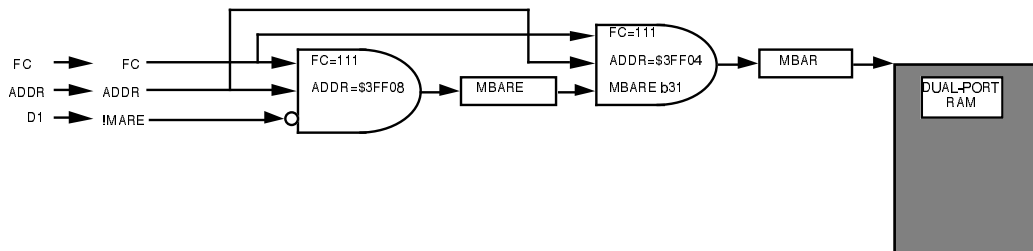

Figure 3 Multiple Slave QUICC MBAR Access
3. Write MBARE of QUICC-s1 with \$FFFFFFFE. For the first slave QUICC the MBARE pin is connected to D0. Therefore, writing \$FFFFFFFE to the MBARE located at \$3FF08 'unlocks' the MBARE by clearing D0 and sets the MSB (MBAR Select Bit). Accesses are now possible to the MBAR register. Note that the second QUICC slave is enabled by D1, therefore, this bit must remain set to avoid contention. A functional block diagram of multiple QUICC accesses is shown in Figure 3.